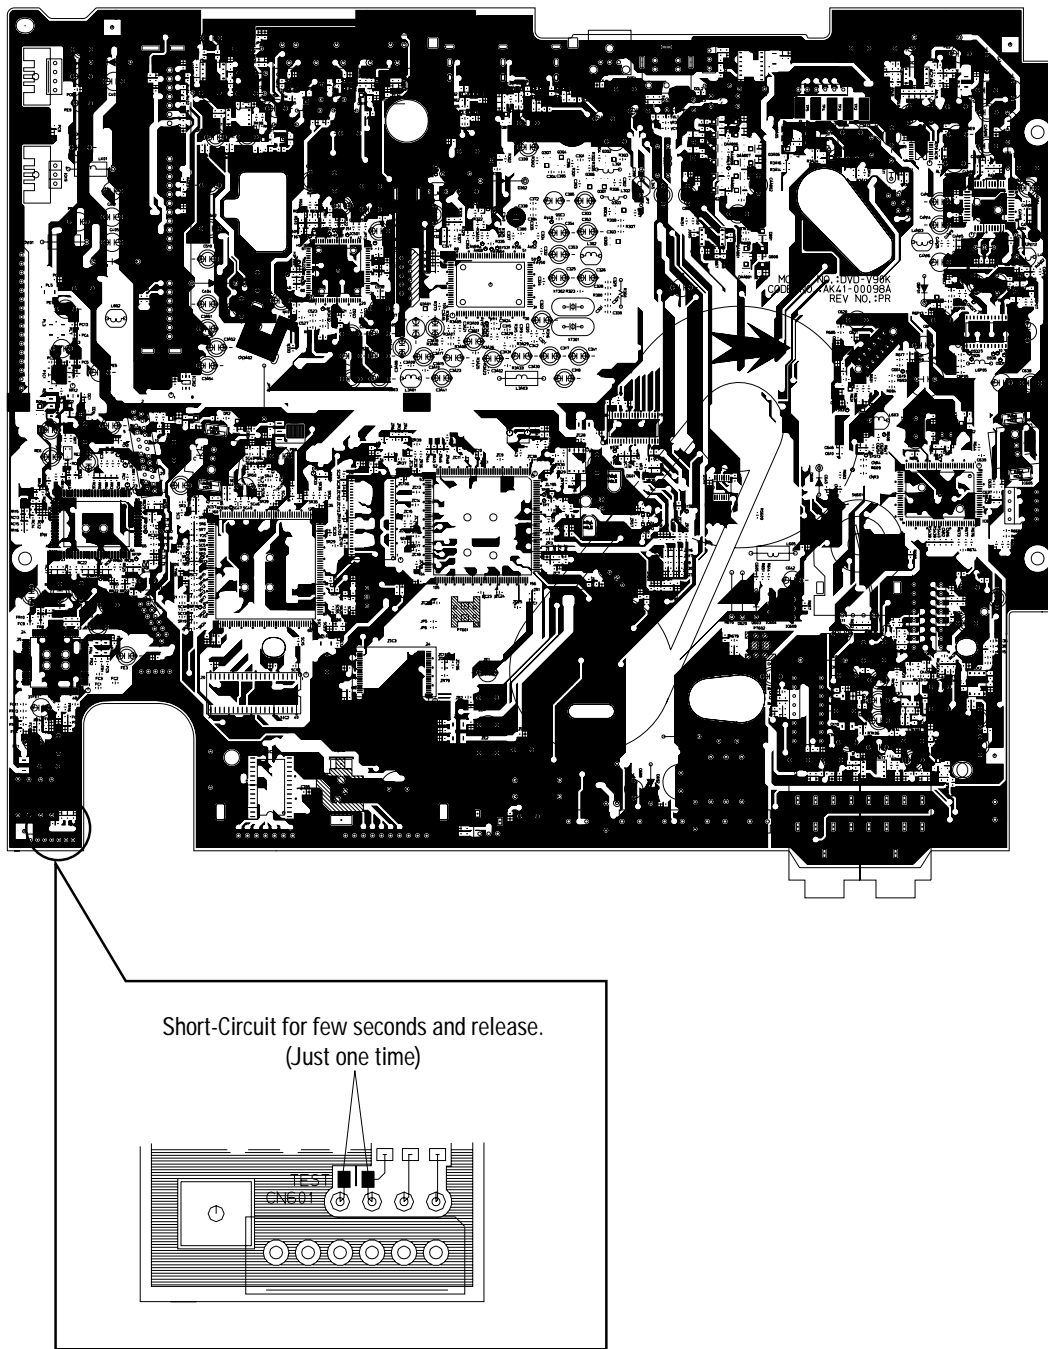

Fig. 6-2 Main PCB (Top View)
- 2) Intermittently short-circuit the two Test Points on Main PCB while setting the adjustment mode. (See Fig. 6-2)
- 1) Intermittently short-circuit the two Test Points on Main PCB. (See Fig. 6-2)
- 2) Intermittently short-circuit the two Test Points on Main PCB. (See Fig. 6-2)